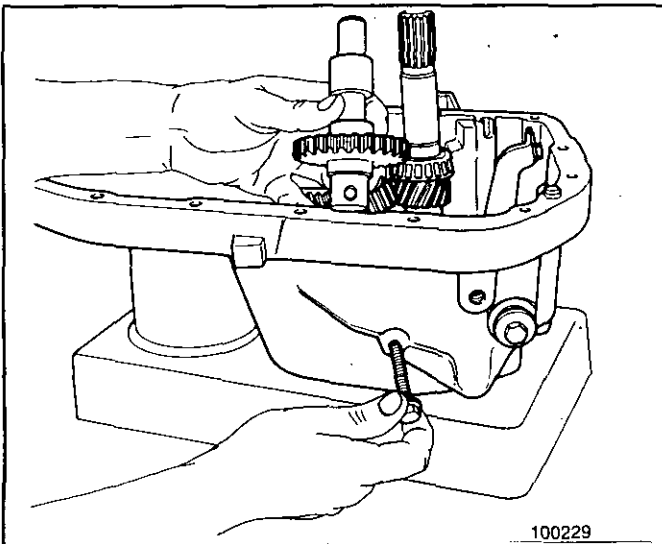

Figure 12 Removing Reverse Idler Gear
4. Remove the lock bolt securing the reverse idler gear shaft. Remove the gear/shaft / spacer assembly as shown in Figure 12.